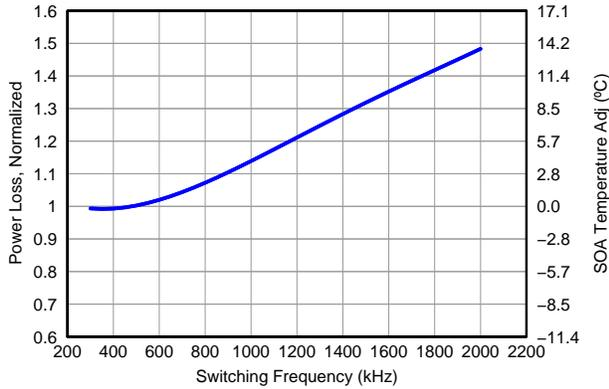

Figure 12. Normalized Power Loss vs Frequency
- Normalized Power Loss for switching frequency \approx 1.08 (Figure 12)
- SOA adjustment for switching frequency \approx 2.6 $^{\circ}$ C (Figure 12)